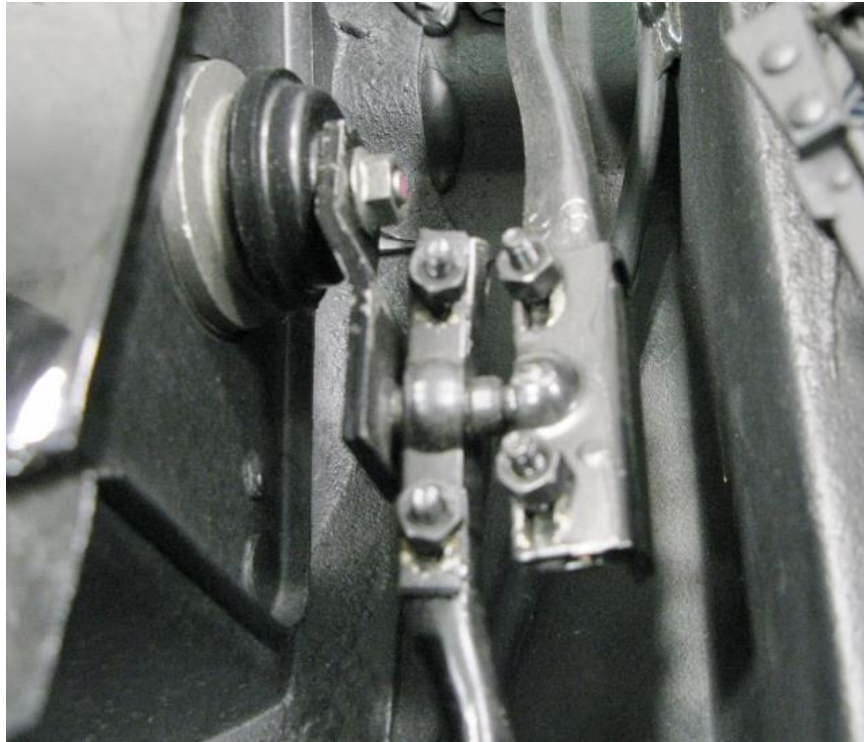

Figure 1 – Remove Wiper Linkage
2. Disconnect both the left and the right side wiper linkage from the wiper motor pitman arm (Figure 1).